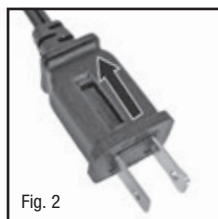

Fig. 2
- Carefully remove the blown fuse and snap a new fuse into place. To reduce the risk of fire, replace fuse only with 2.5 Amp, 125 volt fuse. Fully close the fuse door by sliding back into place. (Fig. 2) Discard the blown fuse. The plug should now be ready for normal use.
- Align the rear and front base assembly and firmly snap together by pushing the 4 round extrusion into the adjacent circles of the connecting pieces (Fig. 2).